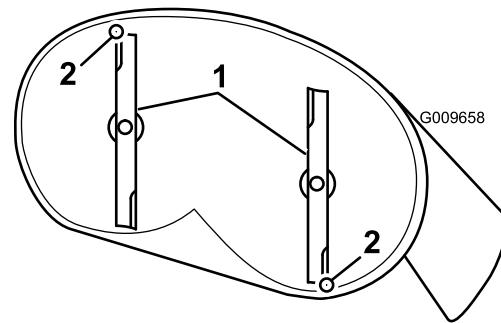
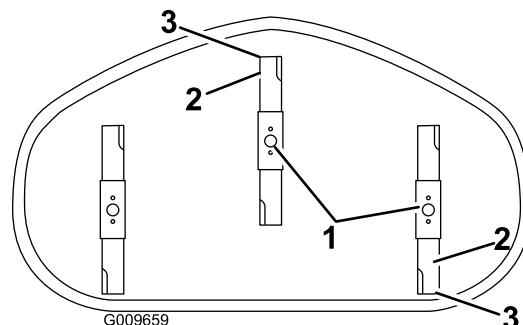

Figure 58
Figure 59
5. Measure from the tip of the front blade to the flat surface, and the tip of the rear blade to the flat surface (Figure 58 and Figure 59).
4. Carefully rotate the blades so they are facing front to rear (Figure 58 and Figure 59).
9. After adjustment, check the front-to-rear slope again, continue adjusting the nut until the front blade tip is 1.6 to 7.9 mm (1/16 to 5/16 inch) lower than the rear blade tip (Figure 58 and Figure 59).